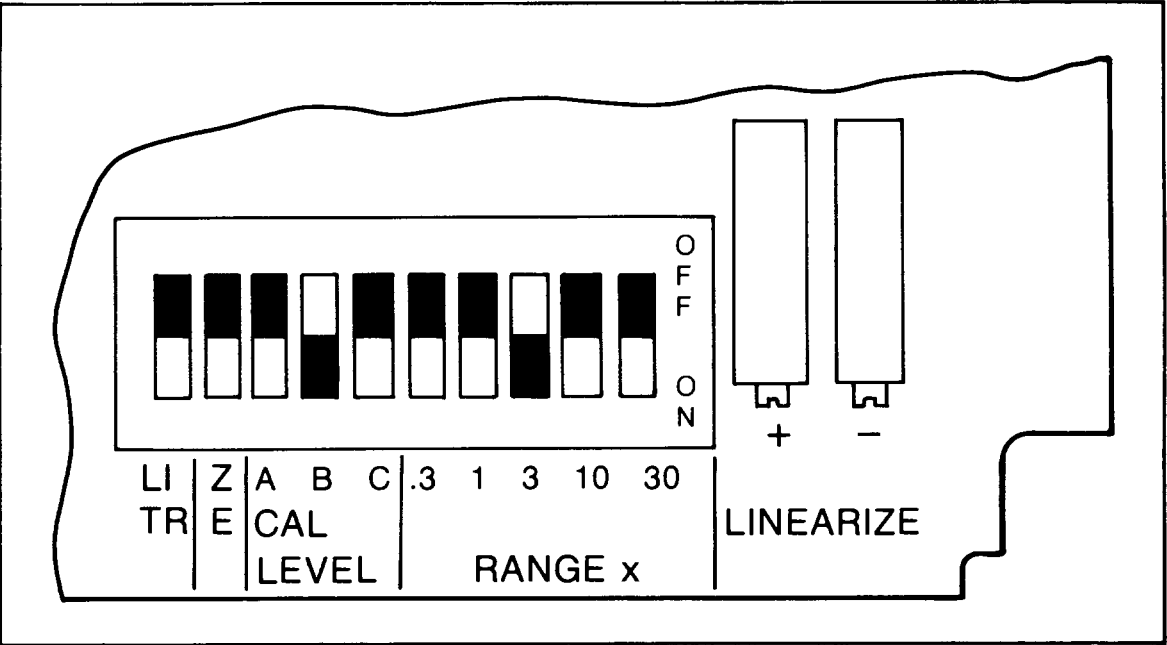

Figure 6. Internal Operating Controls
INTERNAL CONTROLS. A bank of ten miniature switches and two *Linearizing* adjustments are located at the front of the main circuit board, immediately behind the front panel (see Figure 6). The switches can be set at this time (prior to calibration). The two adjustments are used when the *Linearizing* function (described in a following paragraph) is to be used in calibration. The following paragraphs describe the switch functions so that the user can now determine which functions to activate or select. For access to the switches and controls, remove the front panel by removing the two #2-56 flat-head screws.
- (m) Adjust the + *Linearize* adjustment (see Figure 6) for an analog output of +5.000 volts dc or a full-scale indication if the 3230 or 3330 is supplied.